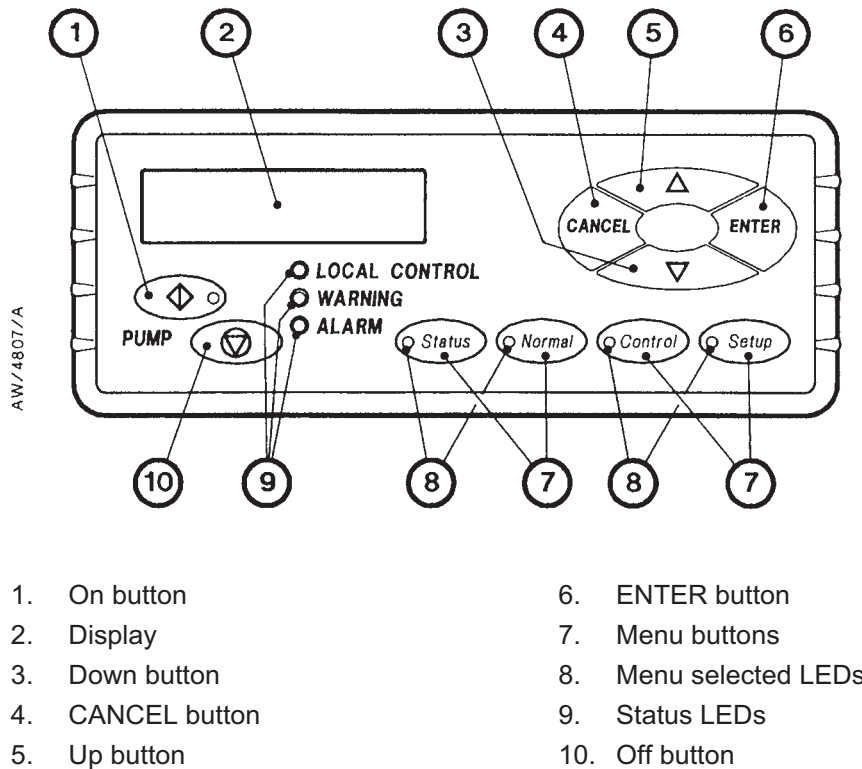
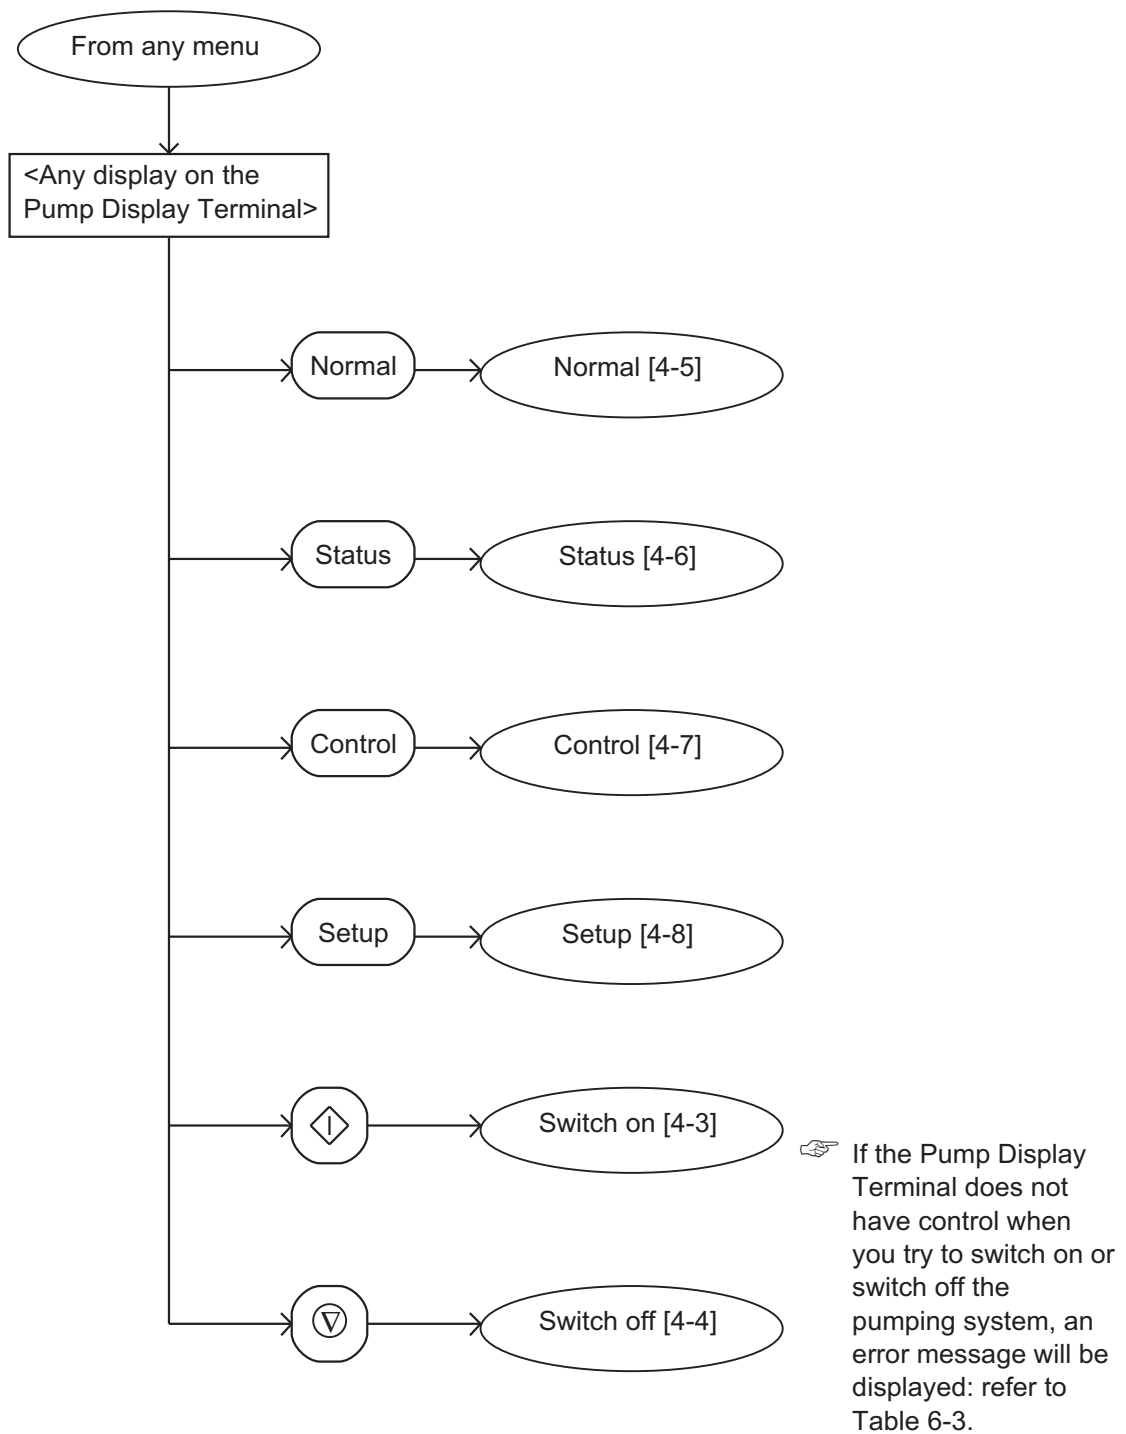

Figure 4-1 - Front panel of the pump display terminal
Figure 4-2 - Menu logic
The menus used and the display messages shown on the Pump Display Terminal are described in the menu diagrams in Figures 4-2 to 4-19. The following symbols and conventions are used in the menu diagrams:
When you first switch on the iH system, the normal display is shown: see Figure 4-5. Refer to Figure 4-1. You can then press the On or Off button (1 or 10) or any of the four menu buttons (7) to enter the corresponding menu. Then, regardless of the current menu and display status, when you press any of these buttons, you exit the current menu and enter the corresponding new menu. Figure 4-2 shows this menu control logic.
In the menu diagrams in Figures 4-2 to 4-19, text shown without chevron brackets in the two-line display symbol is the actual text that will be shown on the display. In this text, the 'Δ' symbol is used to show where a digit will be shown; the value of the digit depends on the sensor data or information you enter into the Pump Display Terminal.